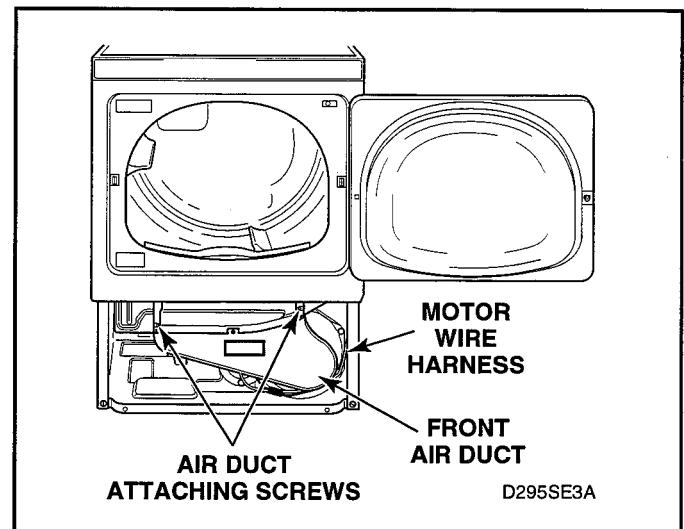
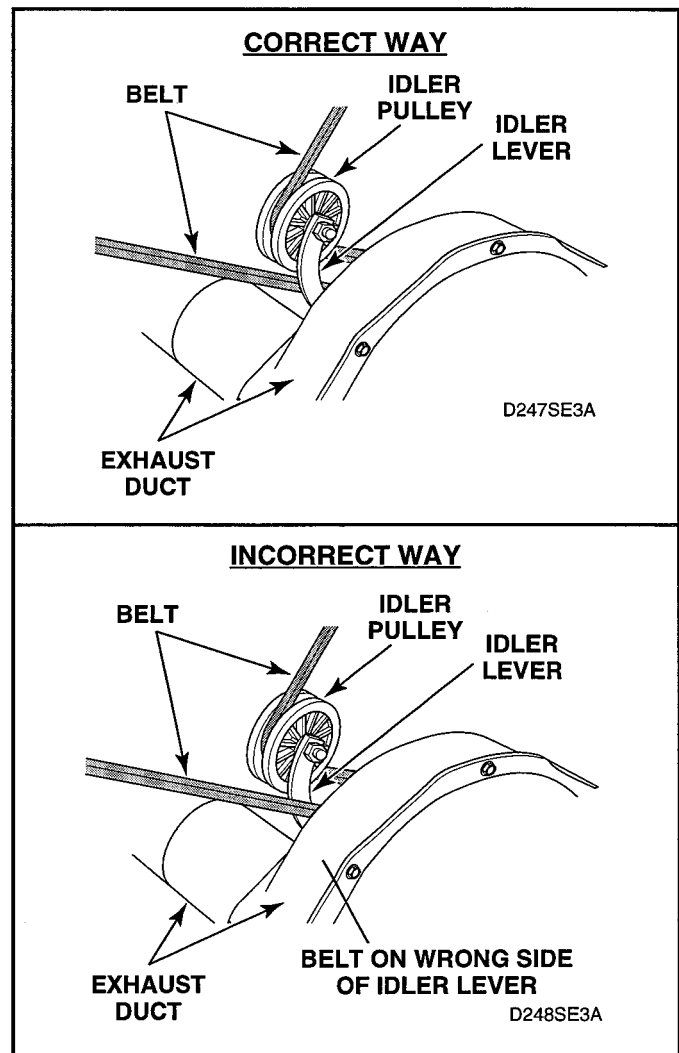

Figure 5-15
Figure 5-17
- Remove two screws holding duct to front bulkhead and remove air duct. See figure 5-15.
- Remove cylinder belt from idler and motor pulleys. See figure 5-17.
- Remove screws holding air duct to front bulkhead and remove air duct. See figure 5-15.
IMPORTANT: When reinstalling motor and exhaust assembly, be sure wire harness on right side is clipped to motor mounting bracket and is routed along dryer base (between motor mounting bracket and right side of cabinet). See figure 5-15. Tab on rear of motor mounting bracket must be slid into slot in dryer base. Be sure the belt has been installed on the correct side of the idler lever. See figure 5-17.